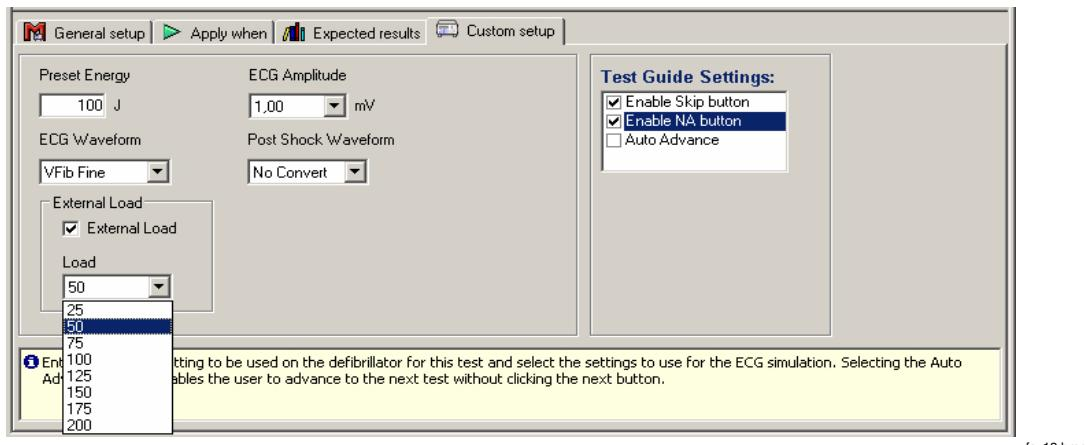

Figure 4-6. Custom Setup Page for Pacer Parameter Test Element
7. Click the **Custom setup** tab to view and define the parameters used in tests. Test elements have unique custom setups for the capabilities they provide. An example is shown in Figure 4-6.